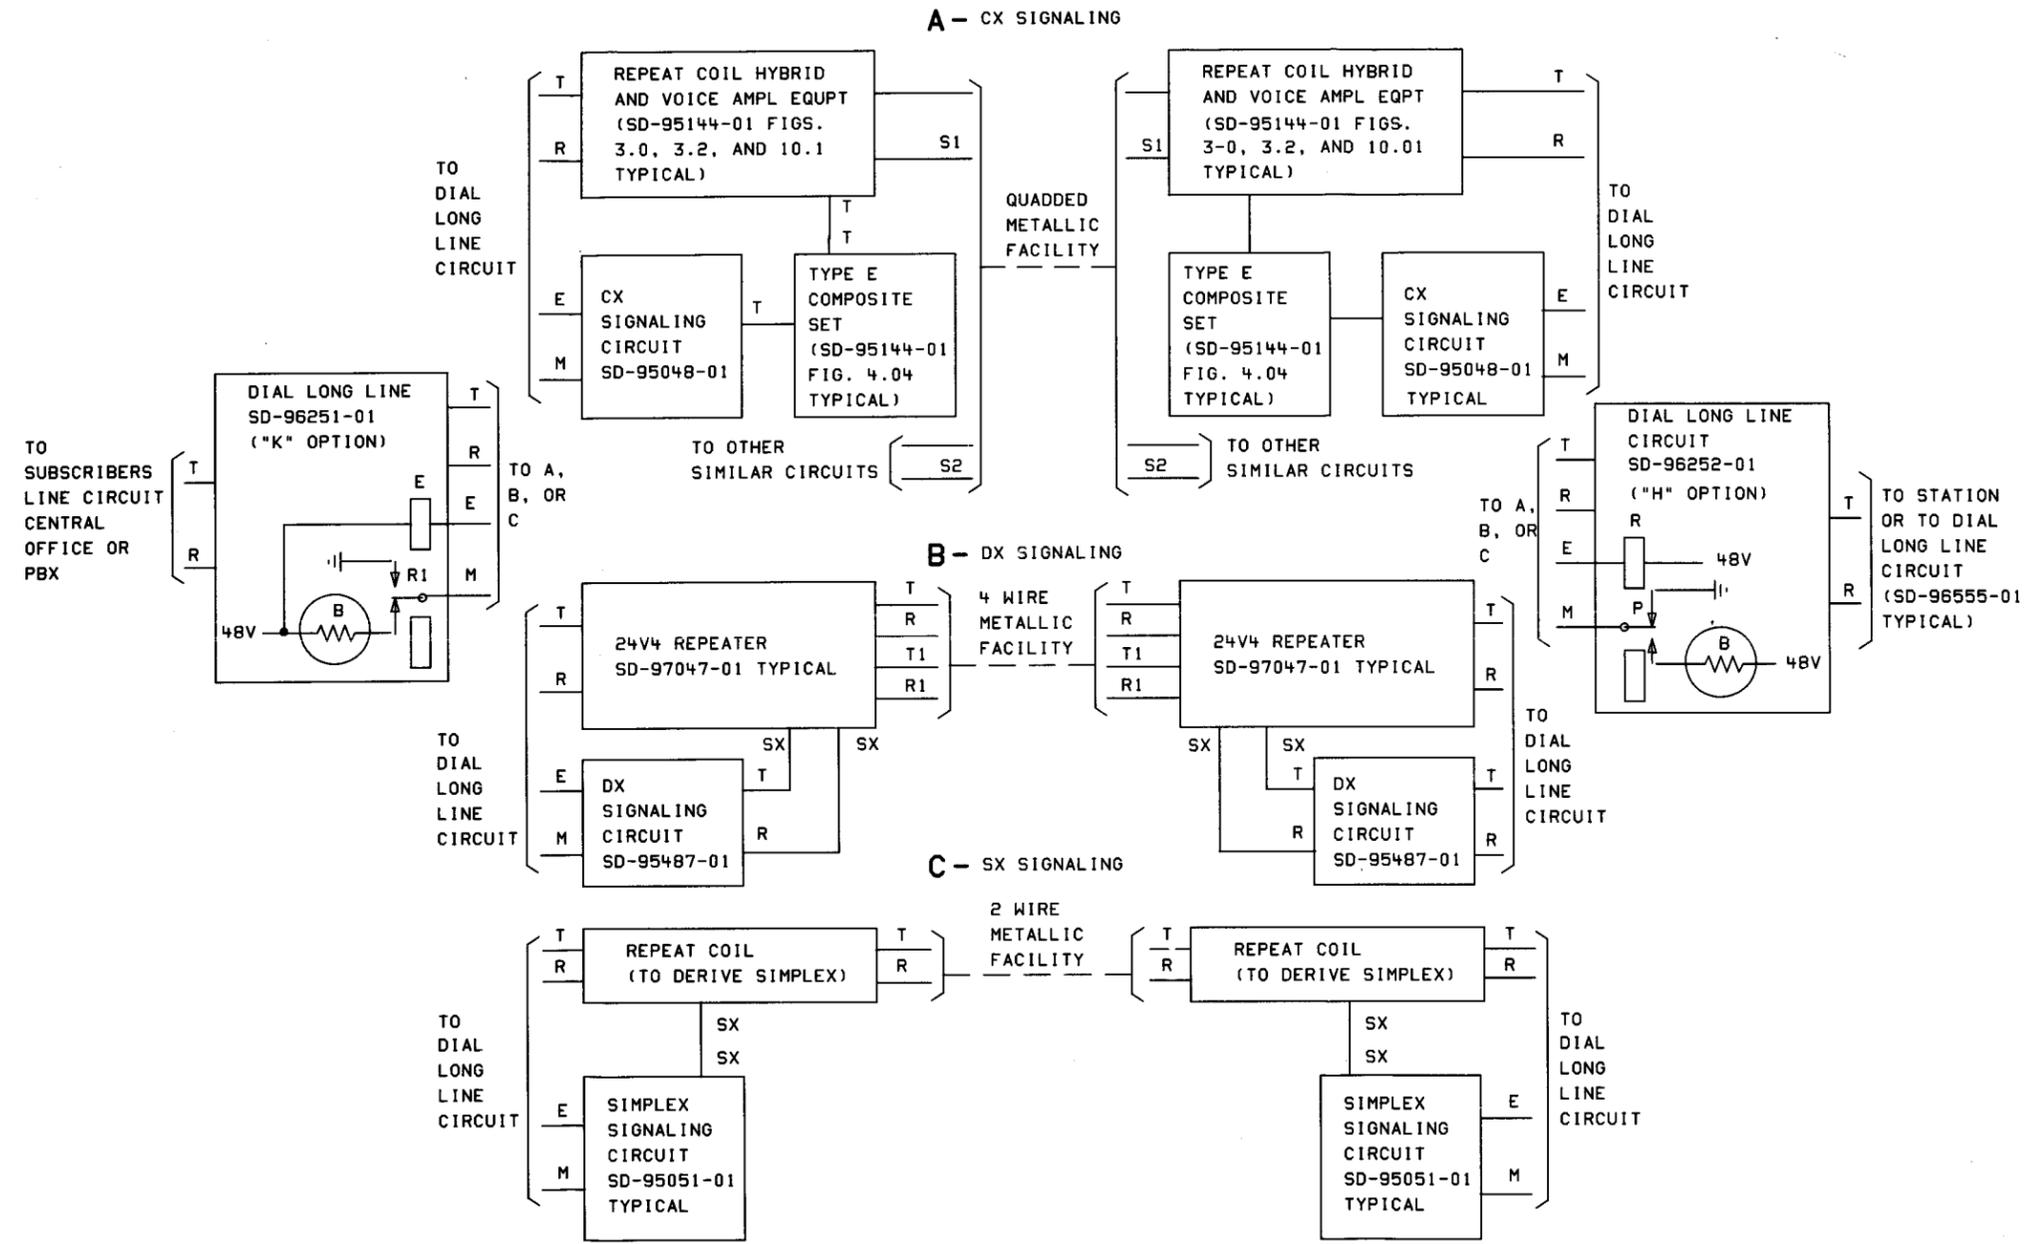
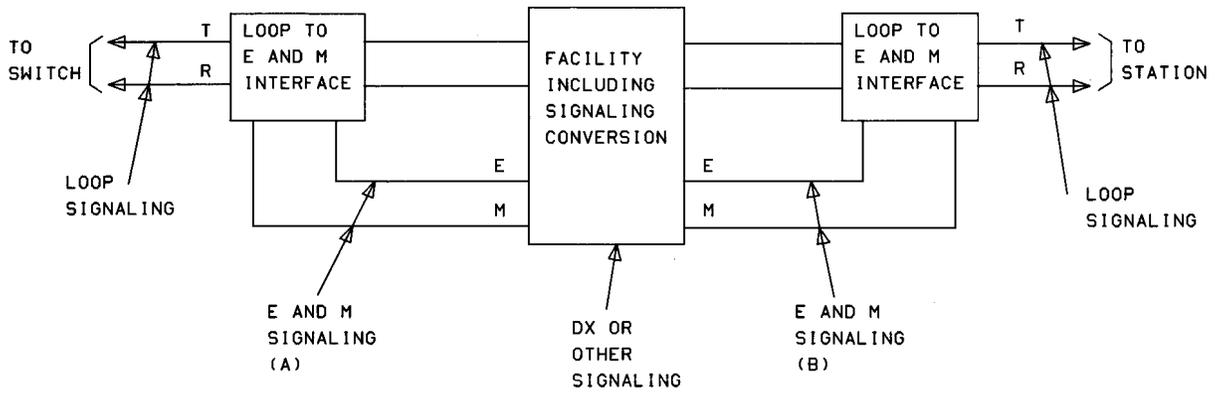
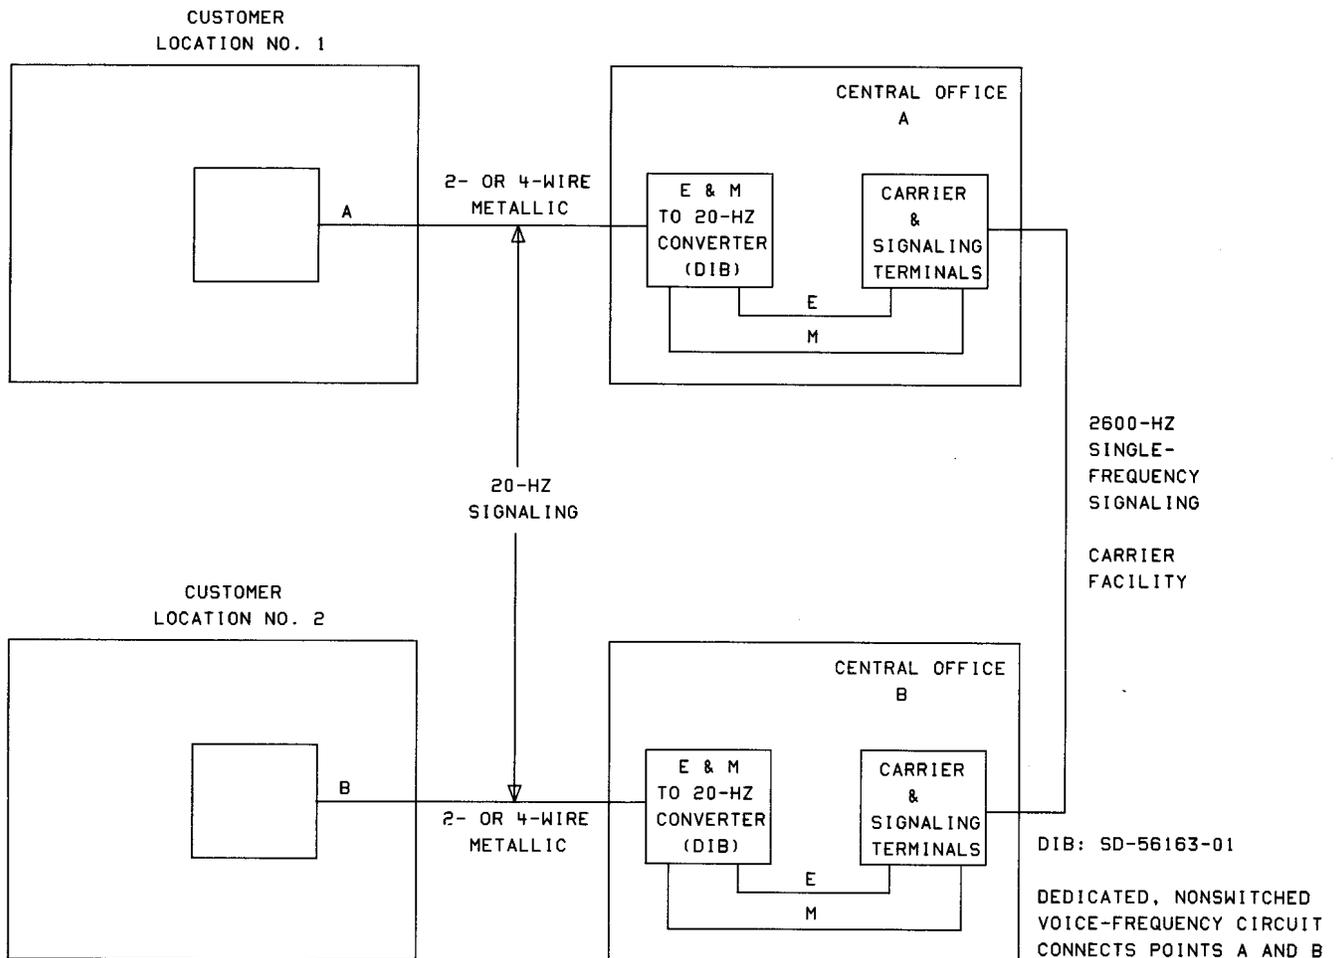

Fig. 3-11—CX, DX, and SX Signaling on Metallic Facilities Loop Start
Fig. 3-12—E & M Interface Between Two Dissimilar Formats (Loop and DX, or Similar)
Fig. 3-13—Typical Ringdown Circuit with E & M to 20-Hz Converters (D1B)
**3.98** Another means of extending the loop signaling range is by using other types of signaling arrangements such as CX, DX, or SX signaling (Fig. 3-11). But since these types are not directly compatible to loop signaling, some type of interface must be used. E & M lead signaling performs a universal interfacing function between dissimilar formats of signaling, such as DX to loop signaling (Fig. 3.12). In addition to connecting two DC signaling systems, E & M lead signaling functions equally well connecting a DC signaling system to an AC signaling system (Fig. 3-13). DLL circuits such as DLL01 (SD-96251) and DLL02 (SD-96252) are used to convert loop signals to E & M lead signals.